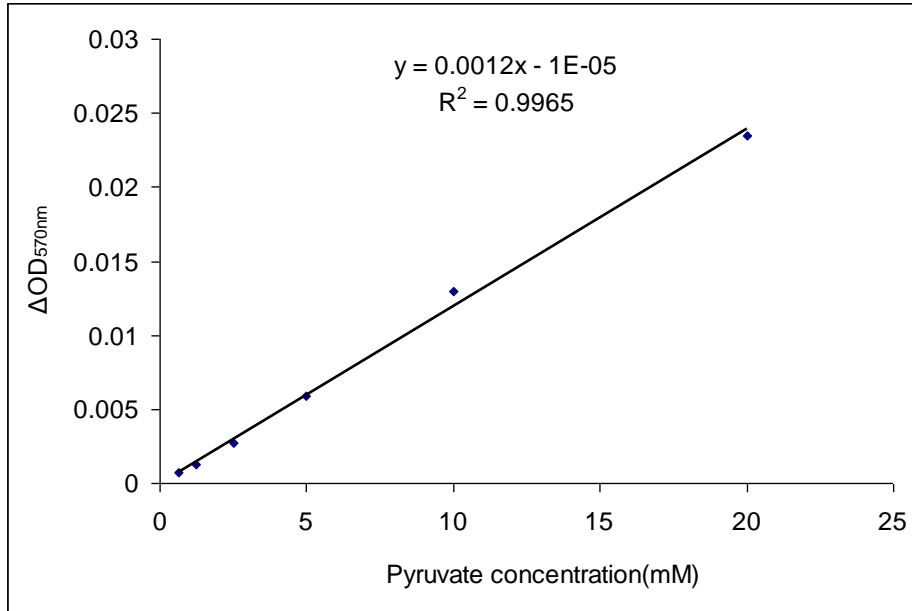

Figure 1. A typical pyruvate standard curve measured by ScienCell™ Pyruvate Kinase Assay kit.
2. Based on the calibrated ΔOD_{570nm} of the pyruvate standard, make a standard curve by plotting ΔOD_{570nm} as a function of pyruvate concentration. (See Figure 1 for a typical standard curve). Determine the slope and R² value of the resulting trend line.